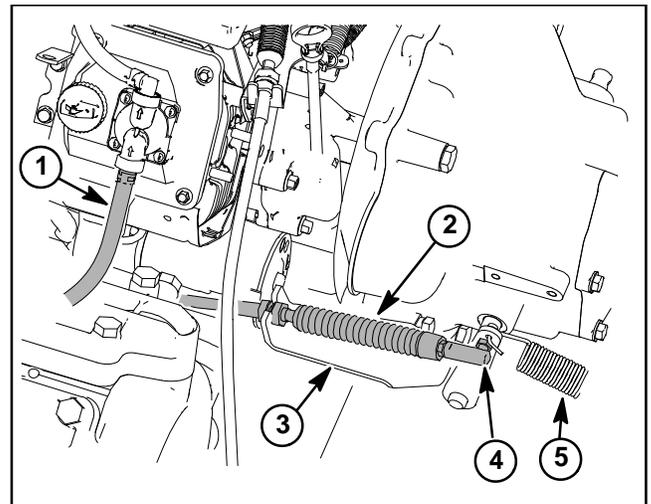
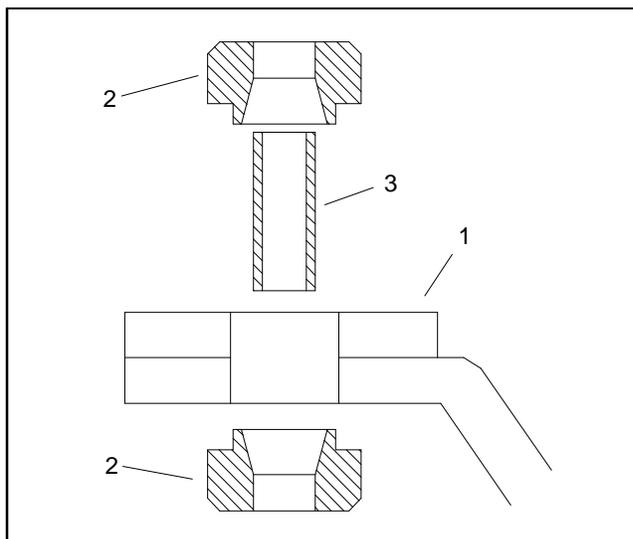

Figure 13
Figure 14
11. Remove clutch cable from bracket on clutch housing (Fig. 13). Remove ball joint lock nut and ball joint from throwout lever, loosen cable bulkhead nuts, and remove clutch cable from bracket. Remove the return spring.
A. Make sure that engine mounts are correctly assembled (Fig. 14). Position engine mounting plate assembly under machine.
C. Secure engine mounting plate assembly to frame with four (4) cap screws, washers and flange nuts. Tighten flange nuts from **67 to 83 ft-lbs (91 to 113 N-m)**.
5. Install clutch cable to bracket on clutch housing (Fig. 13). Set bulkhead nuts so an equal amount of cable housing thread appears on each side of the cable bracket and tighten bulkhead nuts. Install ball joint to throwout lever with lock nut and tighten. Install return spring. Adjust clutch cable (see Clutch Cable Adjustment in this chapter).